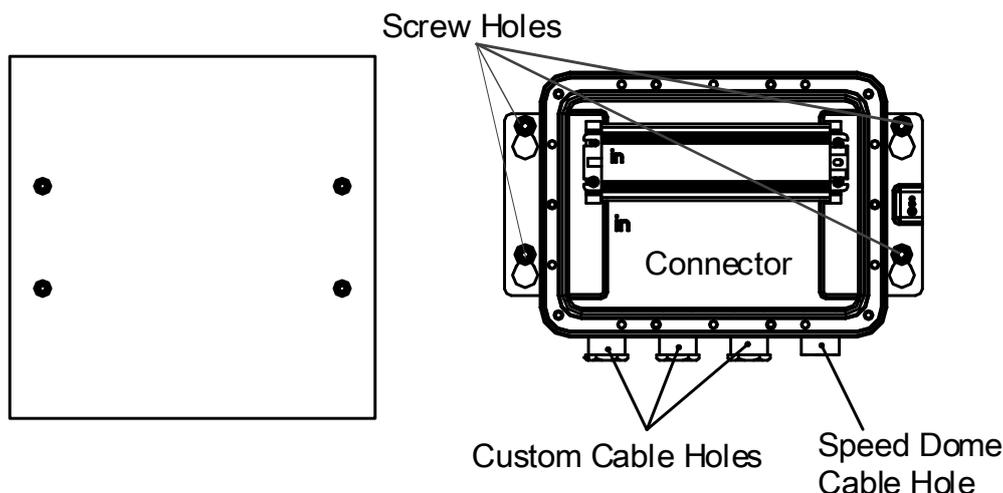

Figure 3-78 Install the Gang Box Type I
1) Drill 4 $\phi 9$ screw holes for expansion screws as shown in Figure 3-78.